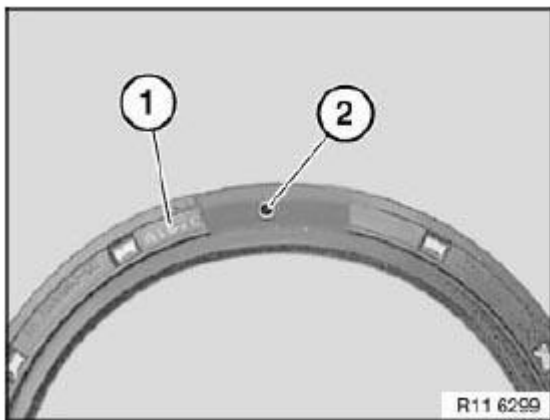

Fig. 91: Identifying Rubber Coating And Removal Opening
NOTE: If necessary, remove rubber coating (1) on top side of radial seal and expose a removal opening (2) (see Fig. 91).